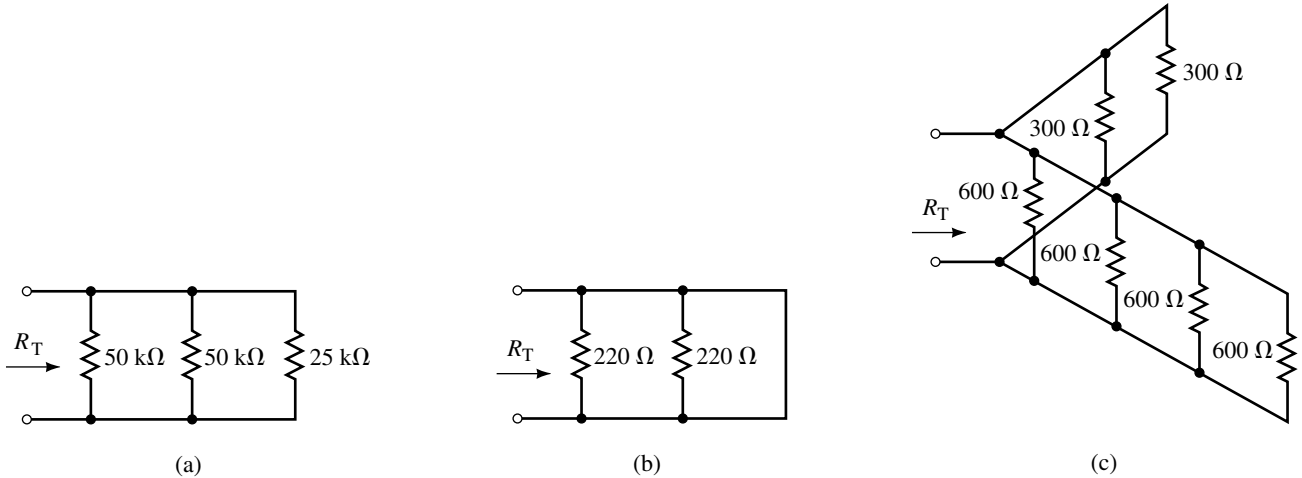

FIGURE 6–69
24. Without using a pencil, paper, or calculator, determine the approximate resistance of the network of Figure 6–70.